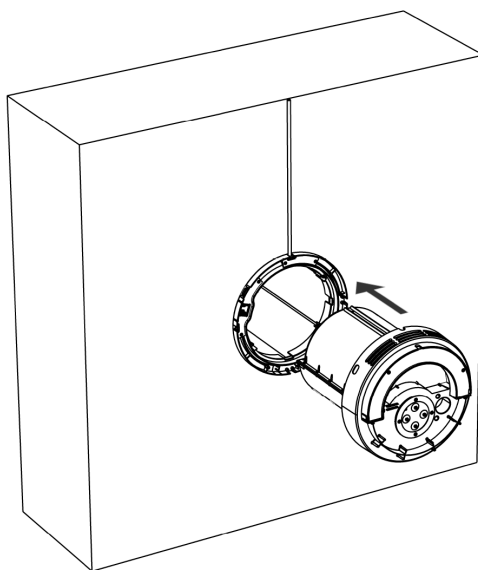

Figure 42 - The ventilation unit mounted in the tube
1. The ventilation unit is carefully inserted into the tube in the wall with the plastic grooves facing up, see Figure 42 below.